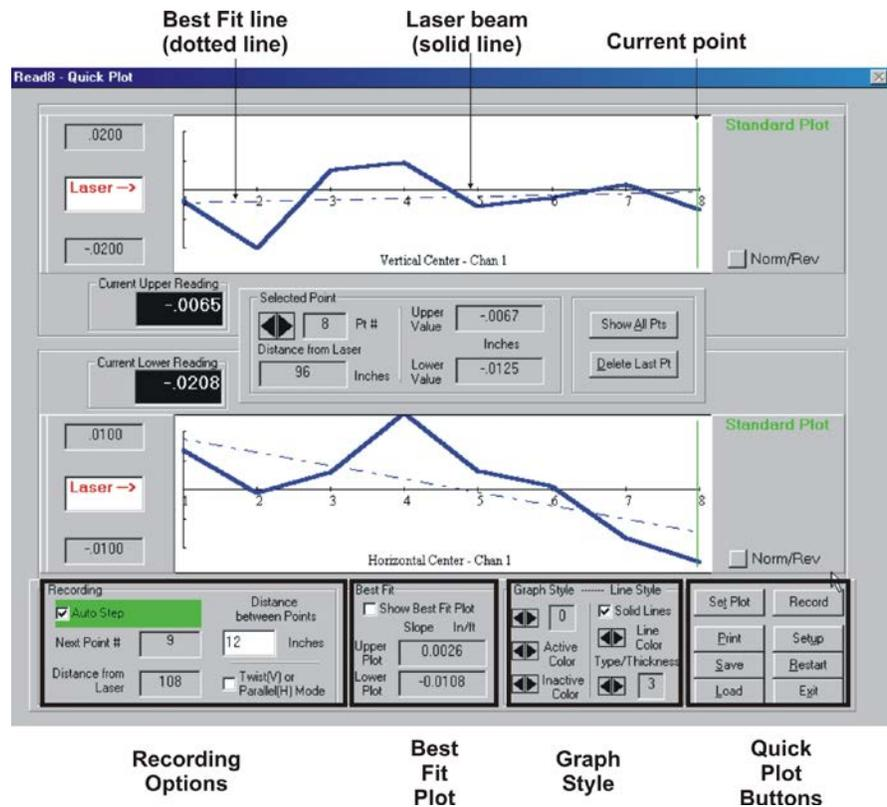
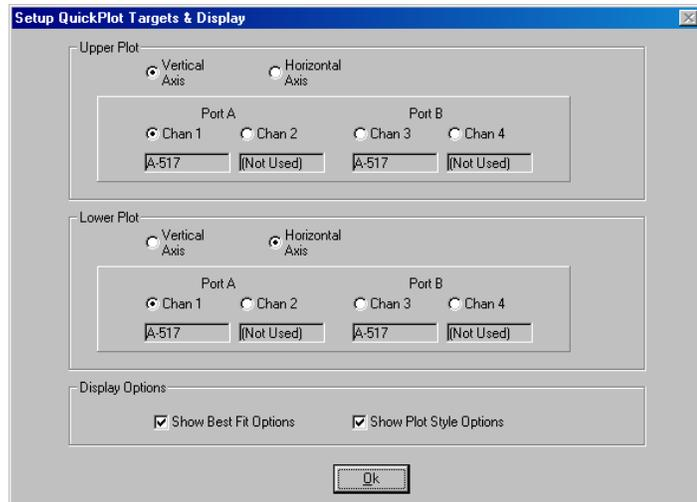

Figure 70 – Standard Quick Plot Screen
Figure 71 – Setup Targets and Display Screen
Figure 70 displays a Standard Quick Plot screen with eight recorded points. In this Quick Plot screen
- the vertical line at Point 8 (marked “Current point” in Figure 70) indicates that this is the current recorded point,
- the values marked *Upper Value* and *Lower Value* between the two graphs denote the actual target reading at any given point. For example, if you click the arrows beneath **Selected Point** and select Point 8, the *Upper Value* reading is the target reading at Point 8 for the upper graph and the *Lower* reading is the target reading at Point 8 for the lower graph (see Figure 70).
Quick Plot contains a number of options for recording and viewing readings and for setting up the appearance of the graph (refer to Figure 70, beginning in the lower right-hand corner). The Graph Style and Best Fit Plot options can be displayed or hidden, depending upon the selections made in the Setup Quick Plot Targets and Display screen (see Figure 71).
Click **Set Plot** or press **Alt-T** to display the Setup Quick Plot Targets and Display screen (see Figure 71). From this screen the user may specify the plot on which the vertical readings display and the plot on which the horizontal readings display, as well as the port and channel to which a target (or targets) is connected. In the Display Options section of this screen, the user can choose to display or hide the Best Fit and Plot Style Options on the Quick Plot screen by checking or removing the check from the appropriate box.